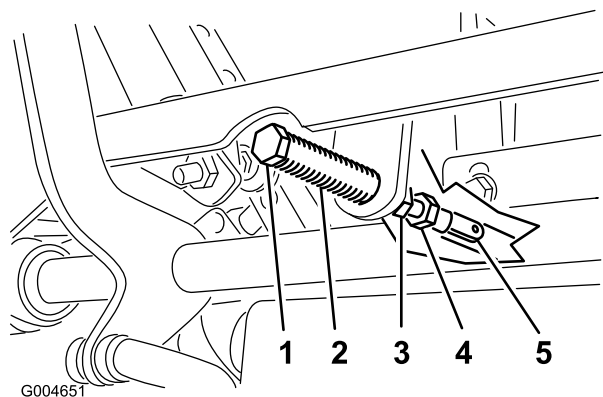

Figure 59
5. Pull the lever back until the clevis pin (on an arm above the pivot shaft) contacts the end of the slot (just beginning to put pressure on the spring) (Figure 59).
7. If adjustment is needed, loosen the nut and jam nut against the yoke (Figure 59).
8. Applying slight rearward pressure on the motion control lever, turn the head of the adjustment bolt in the appropriate direction until the control lever is centered in the neutral lock position (Figure 59).
9. Tighten the nut and jam nut (Figure 59).
10. Tighten the jam nuts at the ball joints (Figure 59).